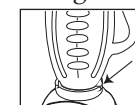

Fig. 3
5. Line up tabs of jar with tabs on blender base. Make sure the tab of the jar on the left side is in the back of the tab of the blender base and the tab of the jar on the right side is in front of the tab of the blender base. Make sure jar is seated into position. (Fig. 3)